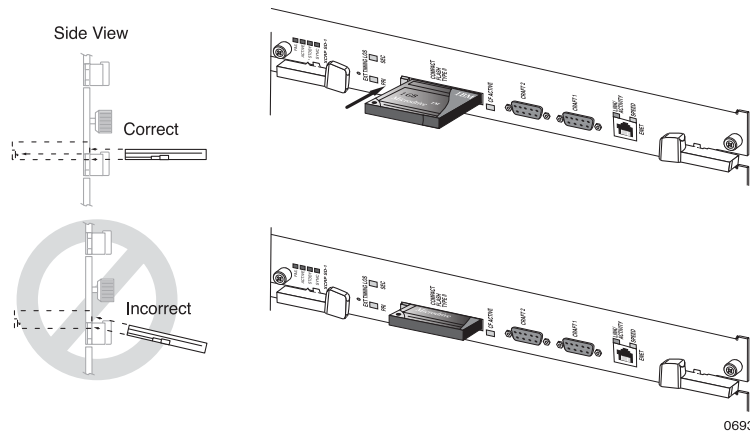

Figure 36 *Installing an External Storage Device*
4. Horizontally align the device as close to the bottom edge of the slot as possible and perpendicular to it; see Figure 36.